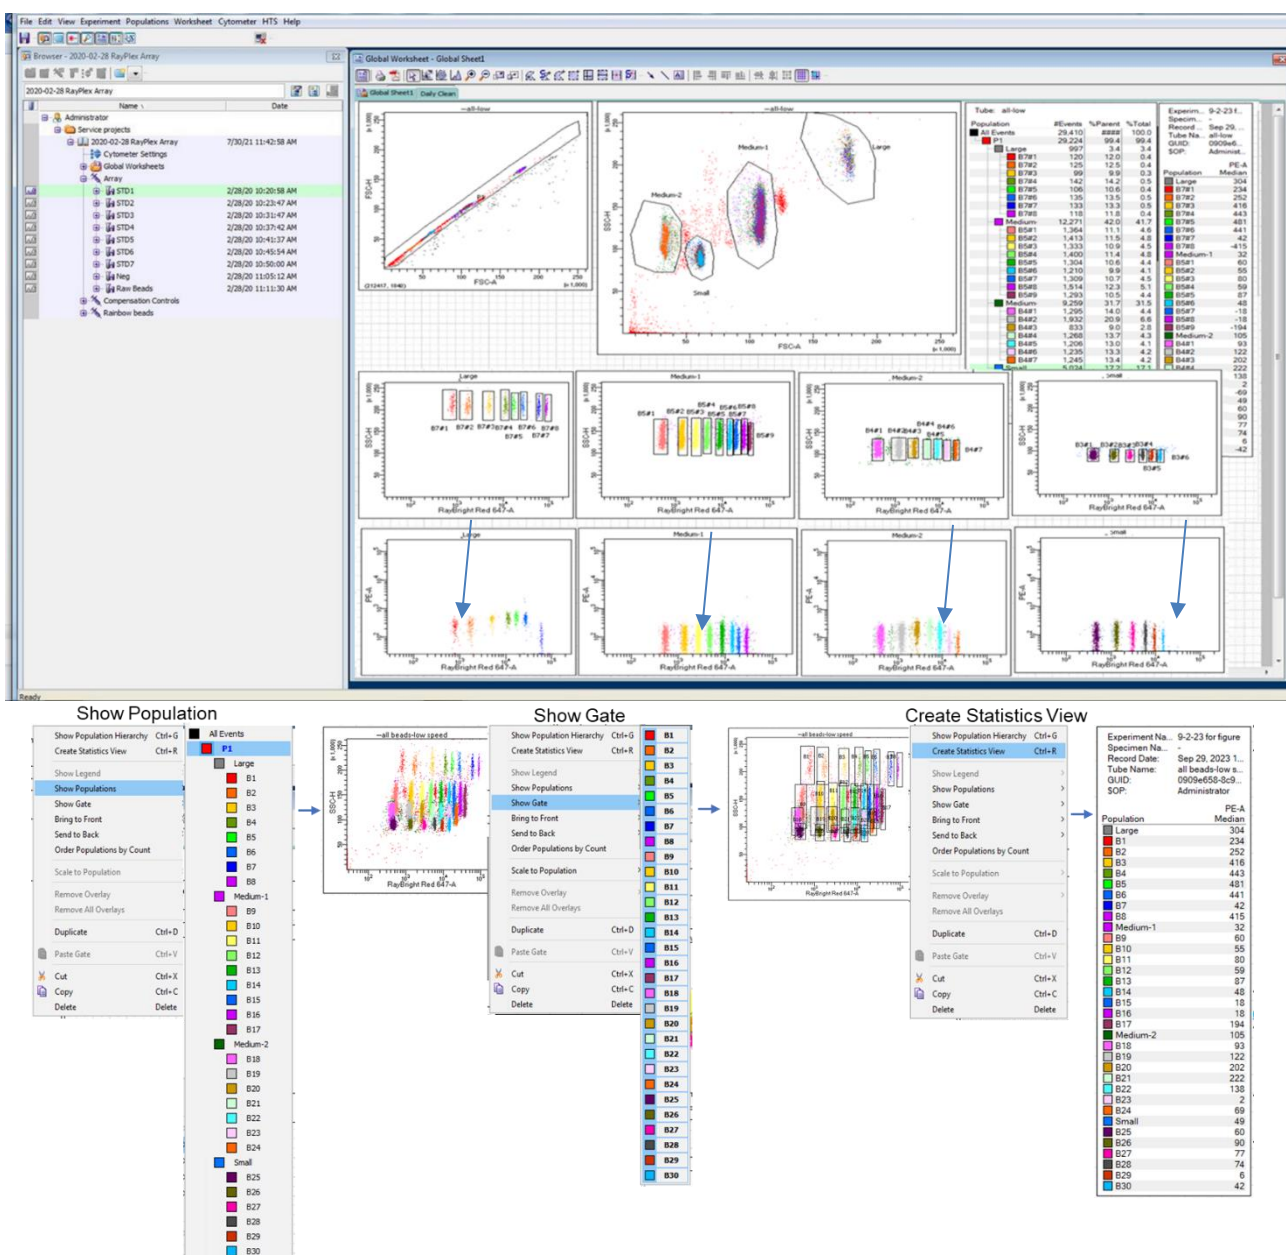
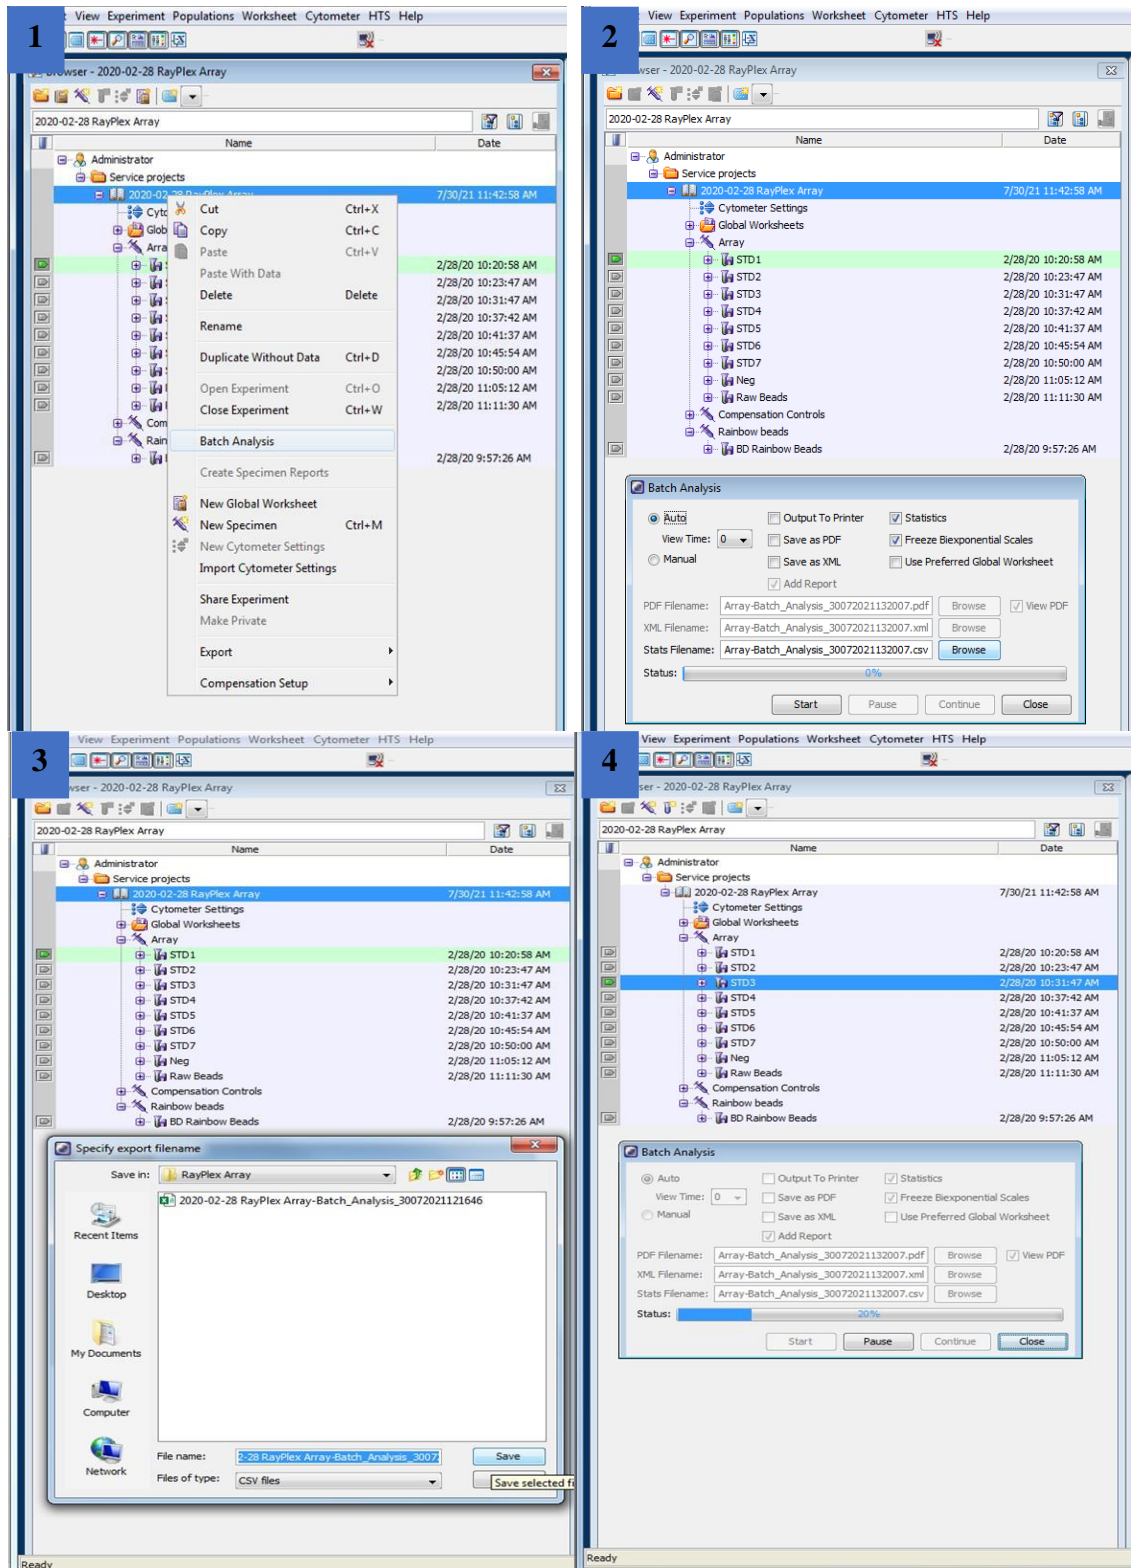

Figure 4. Screenshot of Creating Statistics View from the dot plot of gated beads populations.
Figure 5. Screen shot showing how to begin the batch analysis through manual tube mode.
Batch analysis allows exporting PE MFI data of each bead population directly from FACS Diva. Before batch analysis, it's important to create statistics view from the dot plot of gated beads populations and choose "PE-A Median" to be shown (Figure 4). Batch analysis can be done in either manual tube mode or HTS mode. Both methods for batch analysis are described below (Figure 5 and 6).
1. Create a dot plot by SSC-A (linear) and APC-A (log) to show all beads populations and make a gate for each population (see figure 4, “Gated Dot Plot”). Right click on the dot plot to “Create Statistics View”, then edit the statistics view so that “PE-A Median” of gated beads populations are shown (figure 4, “Statistics View of Gated Plot”).